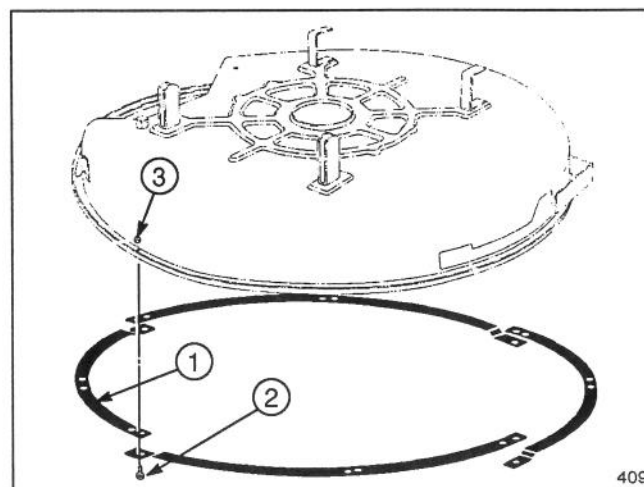

**Figure 7**
5. Align the remaining three kickers with holes in deck and secure in place with short capscrews and locknuts (Fig. 7).